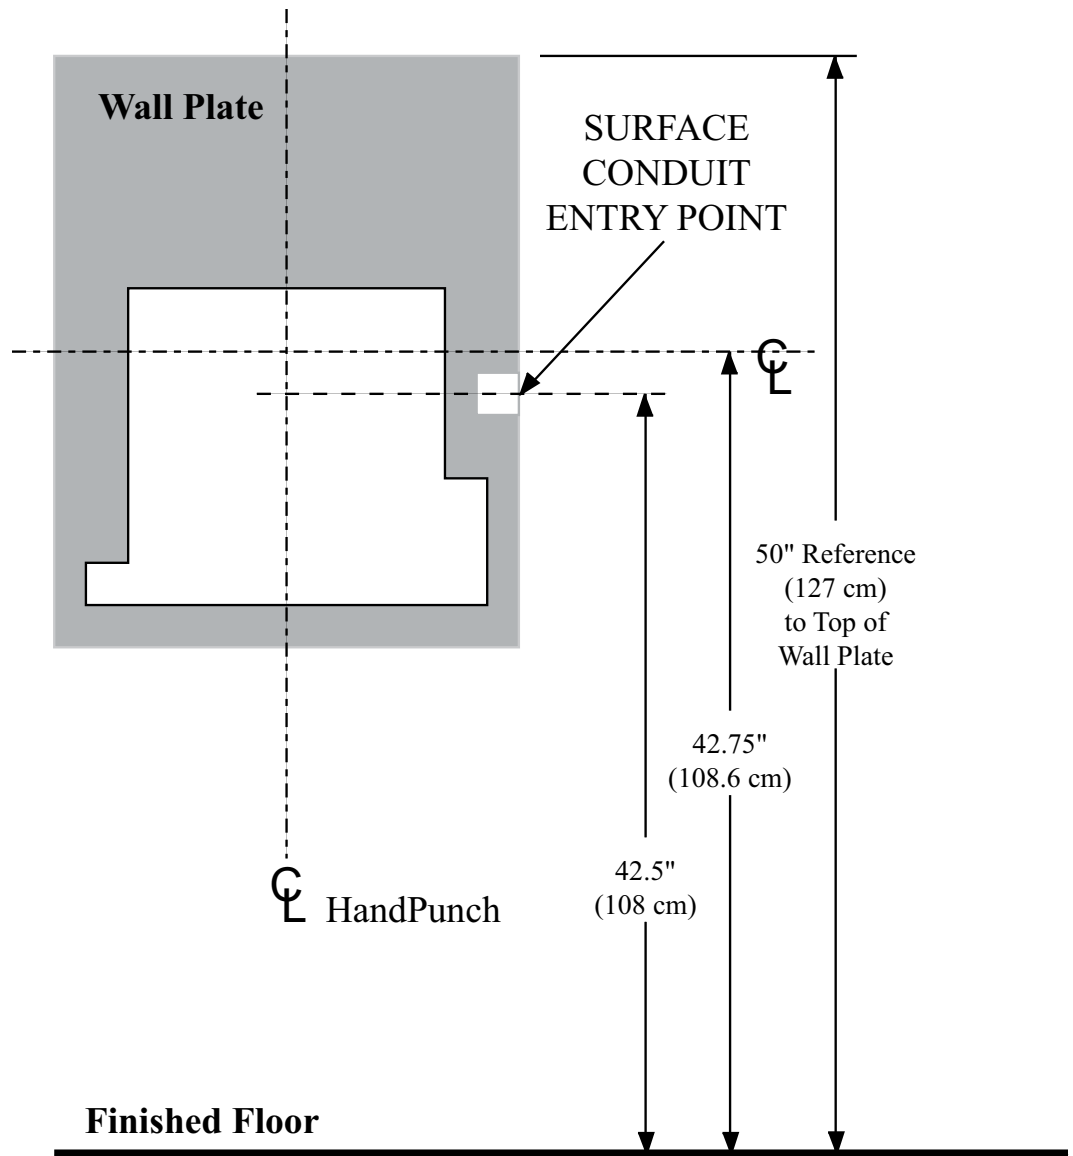

Figure 3-2: HandPunch Wire Routing Layout
Before you begin installation, check the site blueprints, riser diagrams, and specifications for important information about HandPunch location and for other systems that connect to the HandPunch. Look for any existing wall preparations and wiring that other contractors may have installed for the HandPunch. A wire routing layout diagram (see Figure 3-2 on page 15) is provided to assist in planning wire routing.
To make the modem connection, a telephone jack must be installed on or in the wall behind the modem HandPunch terminal. Position the RJ-11 jack location using the template provided in this manual (see Figure 3-2 on page page 15). The short black cable provided with the modem HandPunch connects the terminal to the telephone jack. Figure 4-4 on page page 19 a wiring diagram for a modem to host computer connection.
1. Refer to Figure 3-2 on page page 15 for a template diagram to assist in routing wiring.